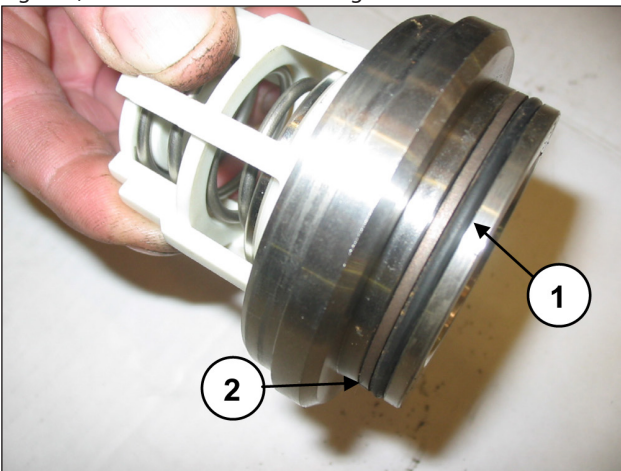

Fig. 123
Assemble the O-ring, exploded view pos. 5 (pos. ①, Fig. 123) and the anti-extrusion ring, exploded view pos. 15 (pos. ②, Fig. 123) on the outlet valve housing.